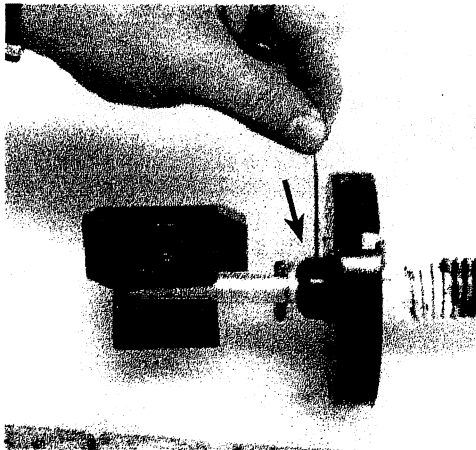

FIG. 5
7. On the **hub** of the left black end cap you will find a hole, also there is a hole through the **awning torsion assembly shaft**; these holes must be aligned and a cotter pin or nail must be **inserted all the way into and thru the shaft. This prevents the torsion assembly spring from unwinding.** Make sure you bend the ends so the pin does not fall out. **SEE FIG.5**